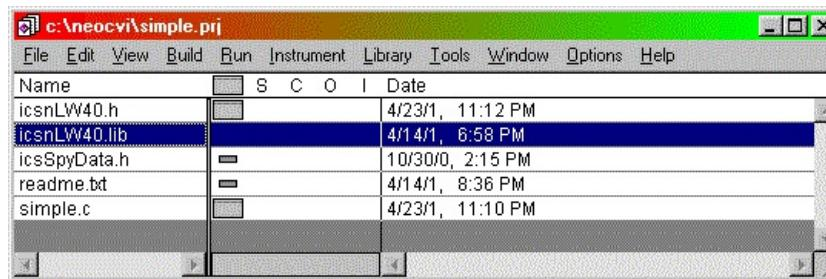

Figure 2 - The project window with the library added.
- 2) Link to icsnLW40.lib import library by selecting Add Files To Project from the Edit pull down menu. In the "Add Files To Project" dialog select the icsnLW40.lib file (figure 1). You can also the headers from step 1 if you wish. Your project should now list the files you added (figure 2).